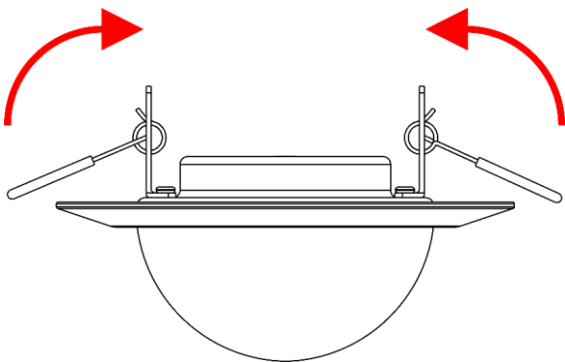
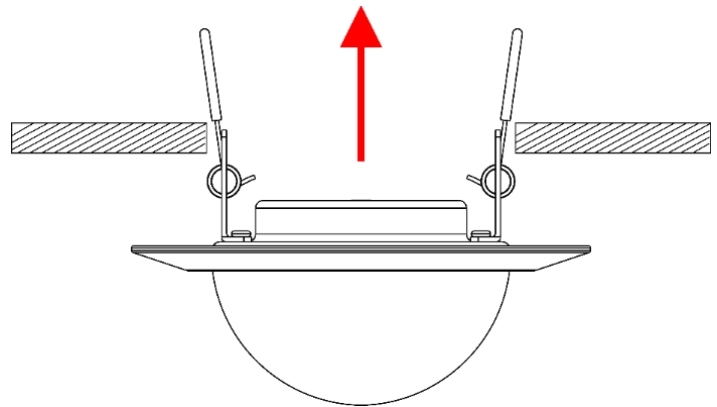

Fig. 04
Fig. 05
- 04) Fold the **spring-loaded mounting clips (02)** upwards (Fig. 04) and put the Pixel Dot in the mounting opening (Fig. 05).